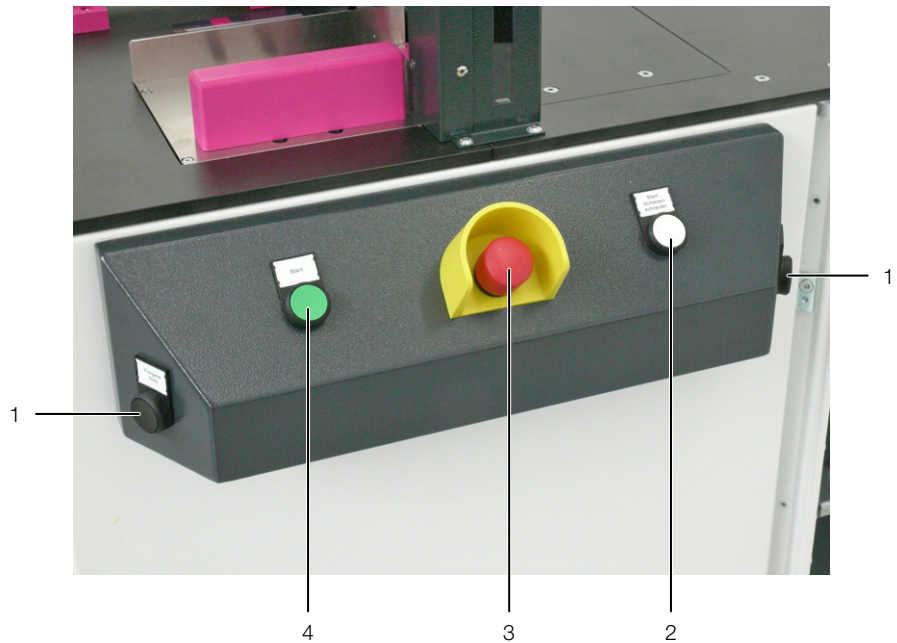

Fig. 3: Control components on the operator console
- 5 Operator console (fig. 3)
Activating the red EMERGENCY STOP key installed on the operator console interrupts the power supply for all outputs (fig. 3, item 3). The operating panel and the graphical user interface remain switched on.
Wiring ducts and cable duct covers are cut by pressing and holding down the two "Two-hand duct" start keys simultaneously (fig. 3, item 1).